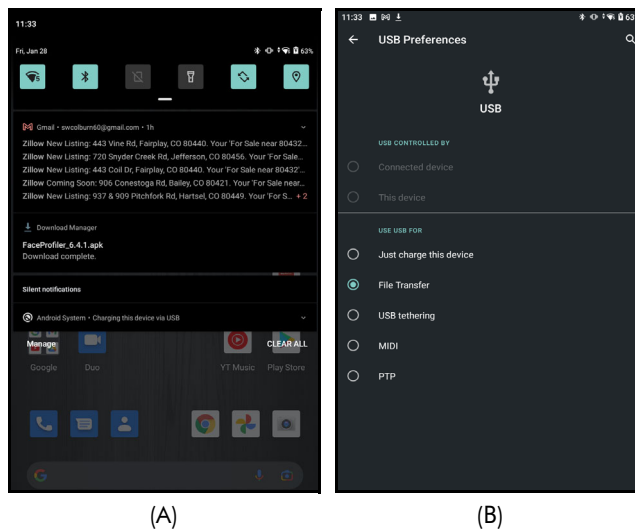

Figure 67
2. Swipe down from the top of the Android device screen to display the connection options for the Android device (Figure 67 A).
3. Tap the USB options and select File Transfer. If the connection is set to charge the device only, the files will not show up on the PC (Figure 67 B).